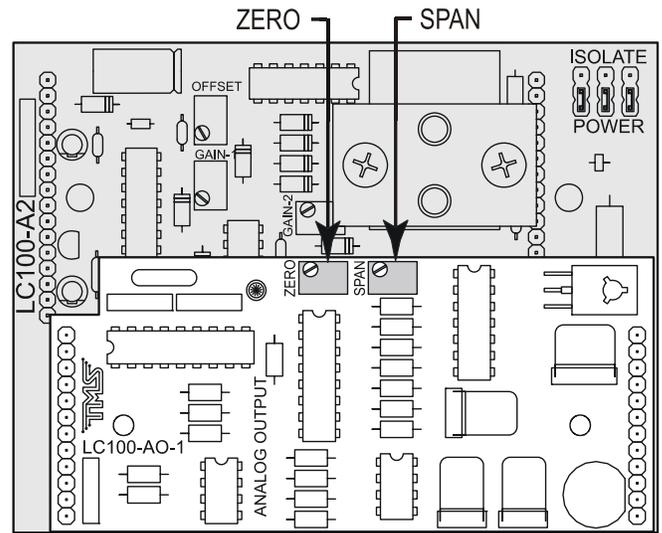

Figure 17 LC100-AO-1 Calibration Potentiometers
mA. (Refer to Figure 17 for the location of the ZERO potentiometer)
3. Press the **UP** or **DOWN** keys to scroll to "SPAN" and press **ENTER**. The meter should read 20mA. If it doesn't, adjust the **SPAN** potentiometer until the meter reads 20 mA. (Refer to Figure 17 for the location of the SPAN potentiometer)
If your machine has the LC100-A2 or -A3 sensor input circuit board, the analog output is contained in a small circuit board attached to the sensor input board. There is an LED on the analog output board next to the ZERO potentiometer that flashes to indicate that the board is functioning. Refer to Figure 17 for location of this LED. If this LED is not flashing the analog output module has probably failed, and should be replaced.